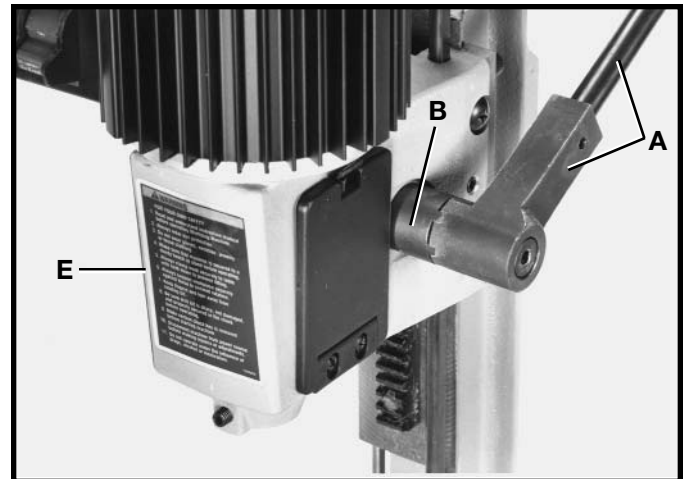

Fig. 4
2. Raise mortising machine head (E) Fig. 4, to the up position by turning handle (A) clockwise. **NOTE:** Handle (A) is spring-loaded and can be repositioned by pulling out handle and repositioning it on pinion shaft (B).